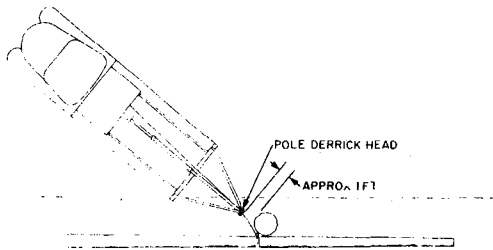

Fig. 7—Positioning Derrick
2.05 The general methods used in placing poles with a derrick are essentially the same for all types of derricks. Proper positioning of the truck for erecting a pole will bring the derrick head pointed to the hole and approximately one foot short of the close edge as shown in Fig. 7.